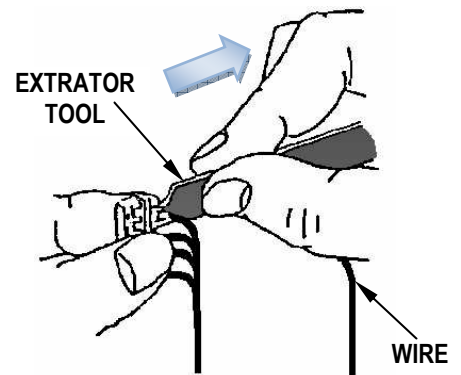

Figure 4
2. Hold the wire against the extractor tool and pull out the wire and the extractor tool at the same time. See Figure 4.